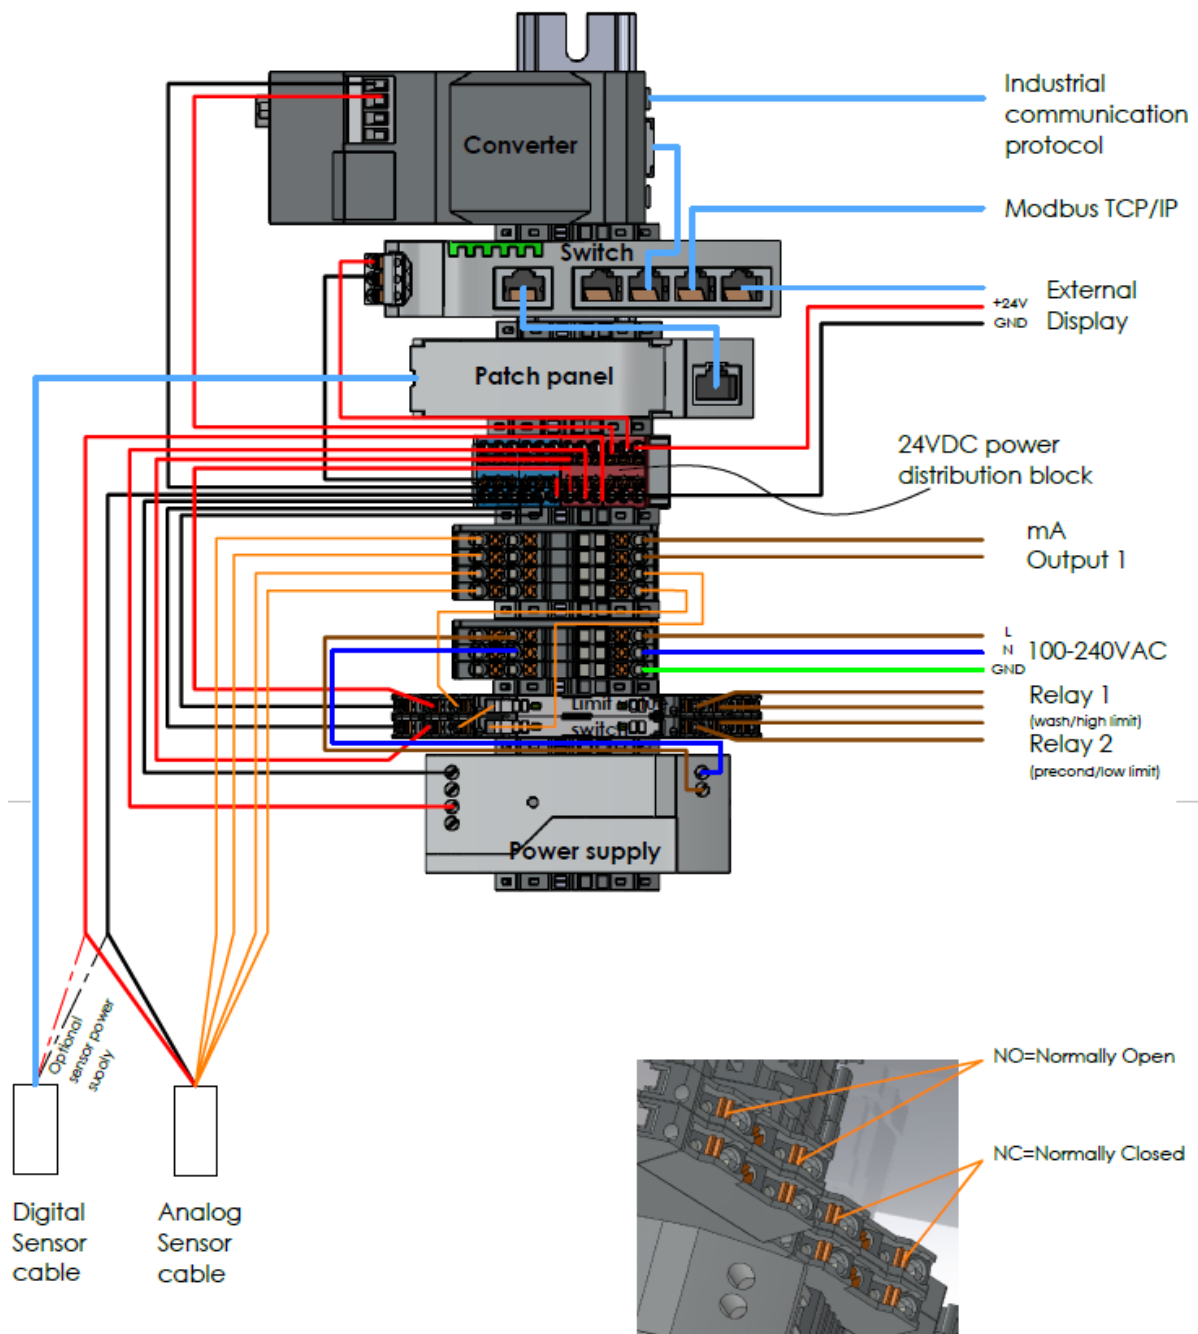

Figure 15 Wiring drawing of modules in MCU. DWG No. 10178.
Simultaneously corresponding physical DIP switches in the Relay SP-9700 are activated 'ON'. When both low and high alarms are used, two (2) limit value switches SP-9700 are connected in serial per wiring drawing in section 2.3, Fig. 15.